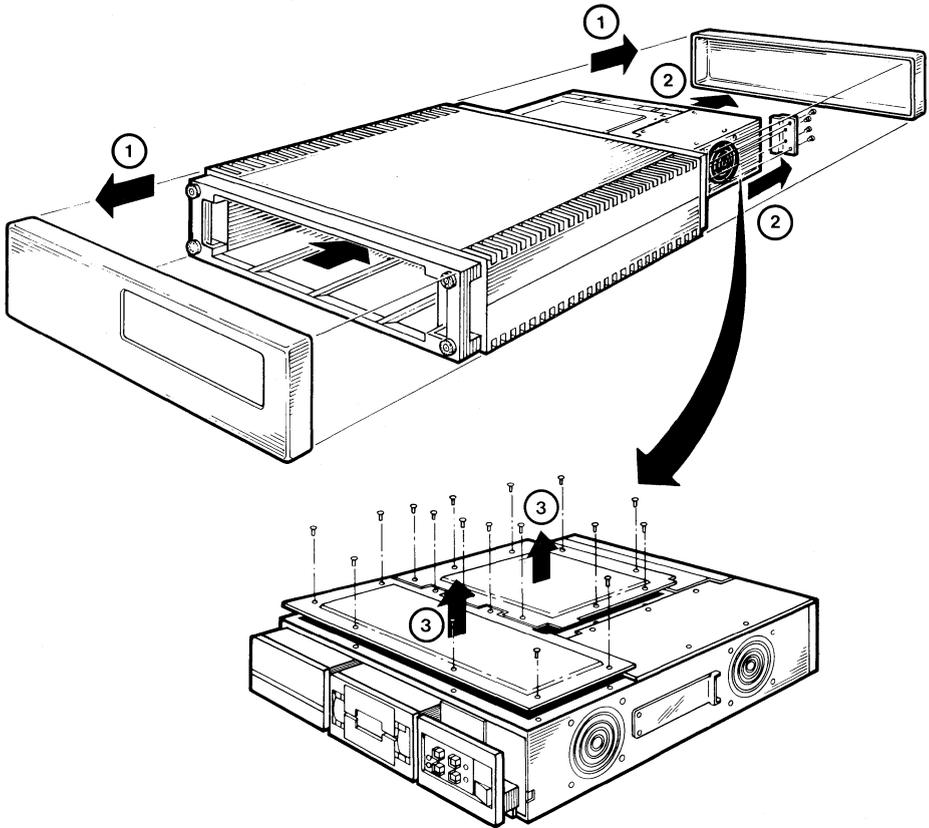

Figure 6-16 Accessing the Backplane
3. Remove both the subsystem storage cover and the Q22-Bus module cover (Figure 6-16).